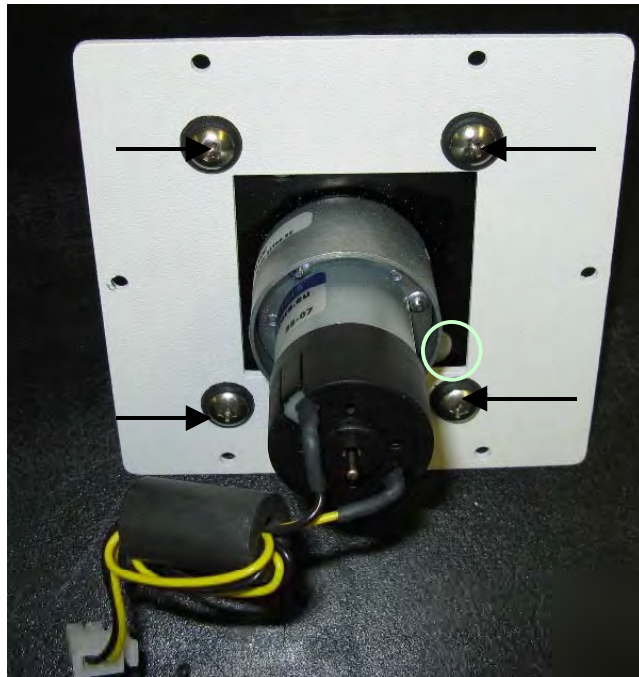

Figure 3-5. New pump in mounting plate. Note the hole for the ground wire mounting screw.
9. Insert the new pump into the mounting plate and attach with new screws provided. See Figure 3-5. Tighten the mounting screws until snug against the grommets or flush with the pump face, whichever is tighter.